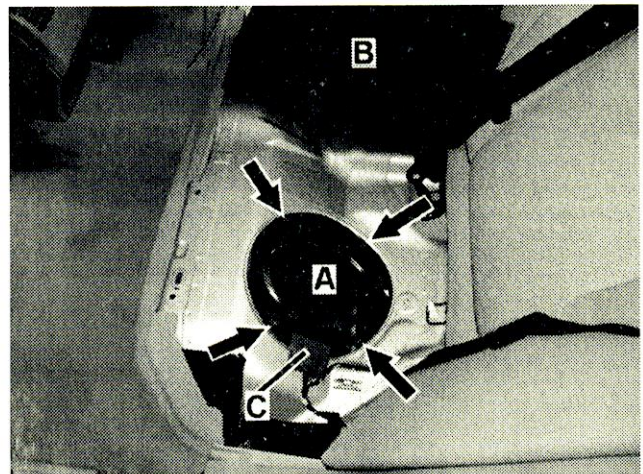

Figure 1
3. Remove fuel pump access cover (A, Figure 1):
- Place insulation (B) to one side.
- Peel back tape (C) from access cover (A).
- Remove bolts (arrows) securing access cover (A) to vehicle's body then remove cover (A).